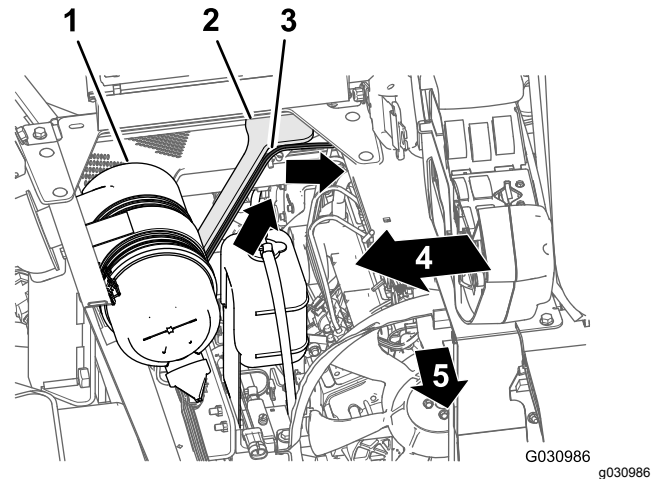

Figure 109
1. Route the 165 cm (65 inch) branch of the wire harness up and into the rear part of the engine compartment, along the right support for the engine shroud—forward of the duct that connects the air filter and the engine (Figure 109).